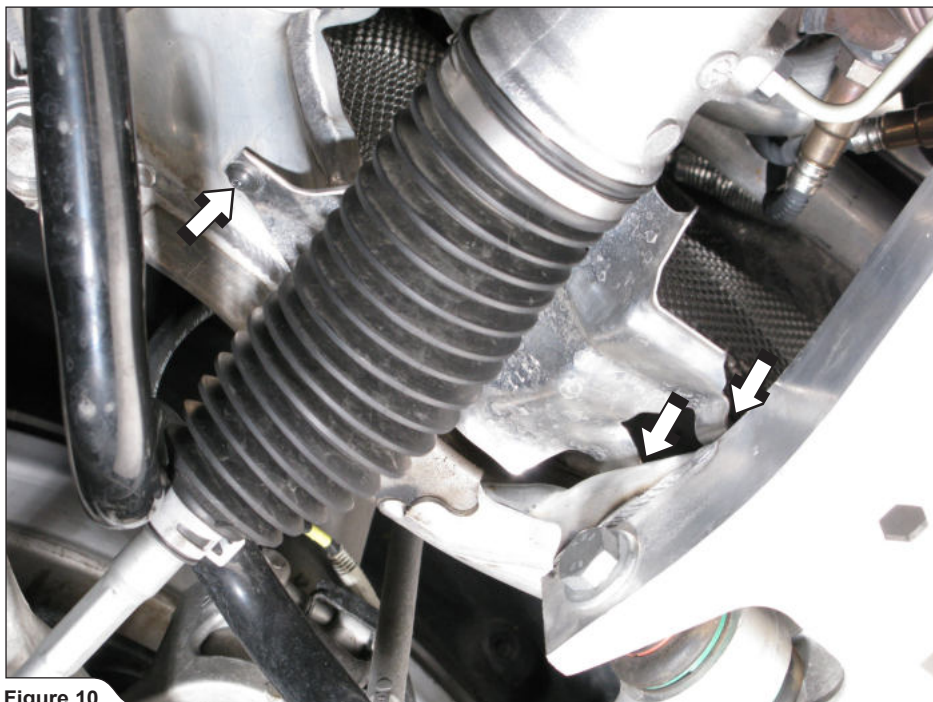

Figure 10
9. **For optional Down Pipes:** unscrew the three marked bolts and remove the power steering heat shield (Figure 10).